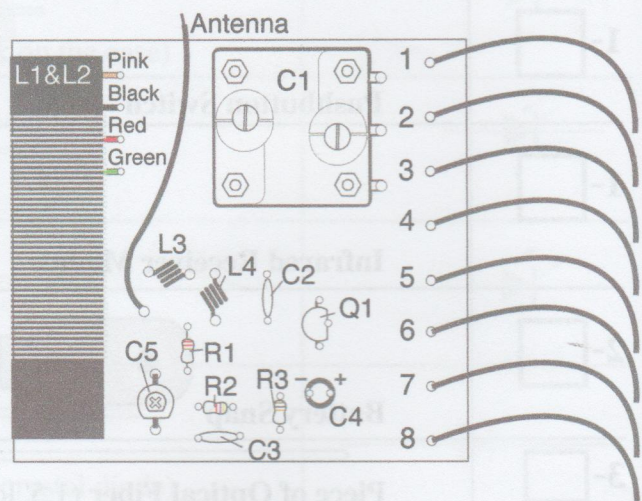
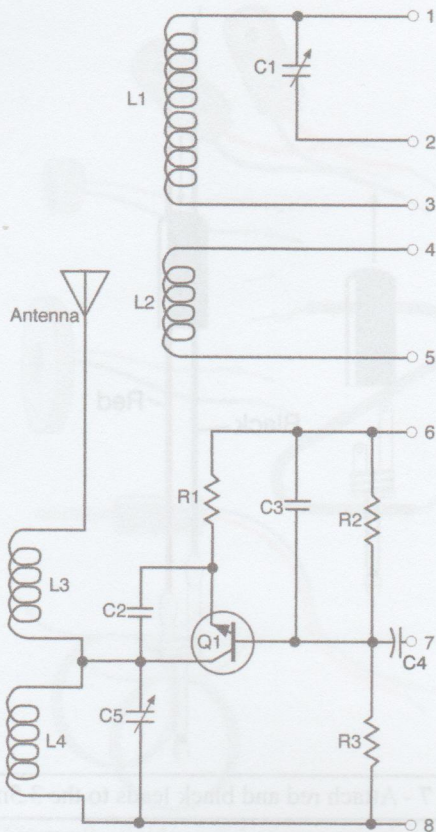

Figure 2 - Parts Layout
Figure 3 - Schematic Diagram
Open the plastic bag containing the parts to assemble the tuning board. Make an inventory according to the following parts list and parts layout (Figure 2).
1. Assemble per parts layout (Figure 2), parts list and schematic (Figure 3) using 60/40 rosin core solder only. Acid core solder or acid fluxes will ruin the kit.